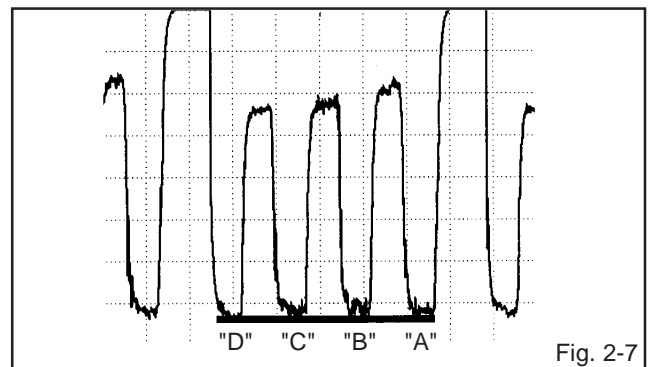

Fig. 2-7
8. Adjust the LEVEL "A" section of Blue to the LEVEL "D" section of White by pressing the VOL. UP/DOWN button on the remote control. (**Refer to Fig. 2-7**)